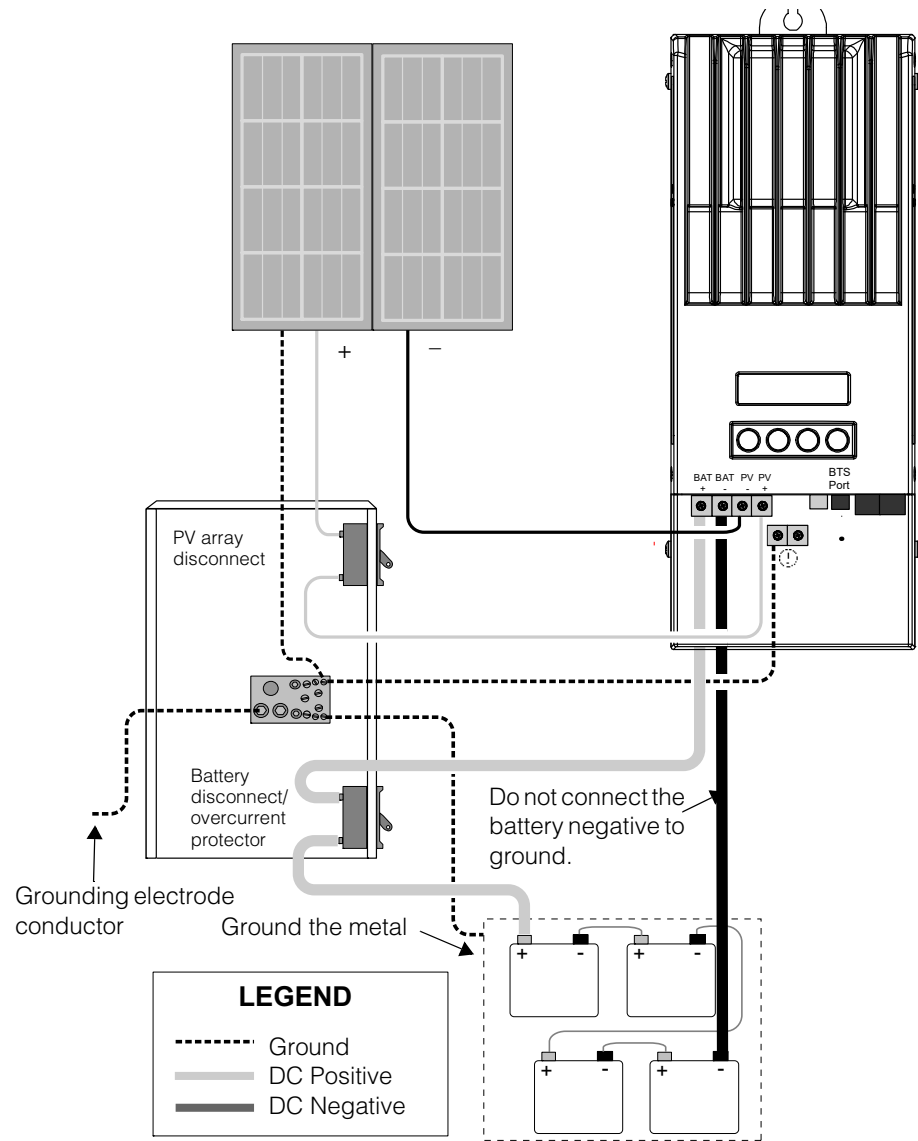

Figure 2-10 Charge Controller Power Wiring
The following procedure is illustrated in Figure 2-10.
If the PV-GFP is enabled, do not connect the battery negative to ground. Bonding the battery negative to ground disables the unit's internal PV ground-fault protection. For more information, see "Grounding" on page 2-9. See Figure 2-10 for correct routing of the battery negative.
2. Ground the solar charge controller. Connect a grounding conductor between an solar charge controller ground lug and the system ground (as shown in Figure 2-10).